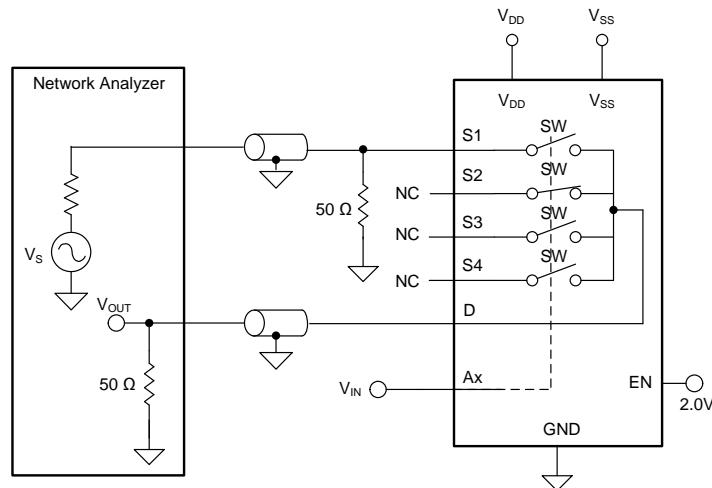

図 24. Off Isolation Measurement Setup
Off isolation is defined as the voltage at the drain pin (D) of the TMUX6104 when a  $1\text{-}V_{RMS}$  signal is applied to the source pin (Sx) of an off-channel. 図 24 shows the setup used to measure off isolation. Use 式 2 to compute off isolation.